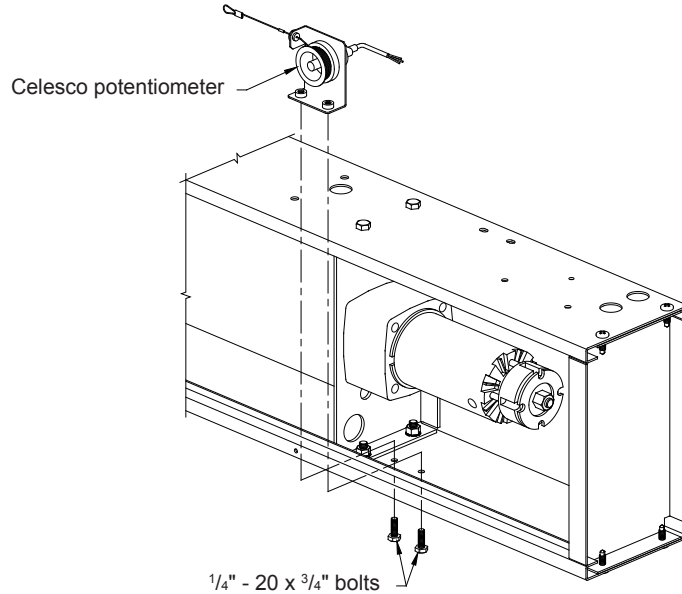

Figure 4
- 6) Position the Celesco potentiometer in the inside of the BA4000 over the new holes new holes with the cable coming exiting potentiometer and attaching to the cable bar (See Figure 4). From the outside of the BA4000, screw the (2) $\frac{1}{4}$ - 20 x $\frac{3}{4}$ " bolts provided through the new holes and into the threaded insets of the Celesco potentiometer bracket. **See Figure 4.**